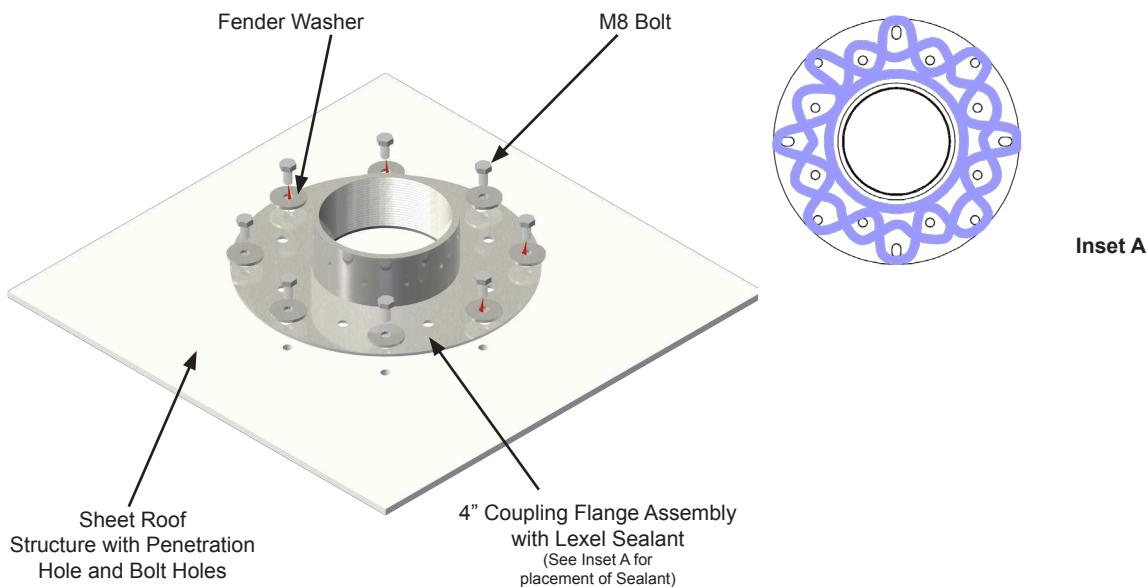

Figure 1: Outside Tank Bolt Installation
STEP 1: Locate the Dish Assembly and Float Arm Assembly. **(See Figure 1 & 2)**